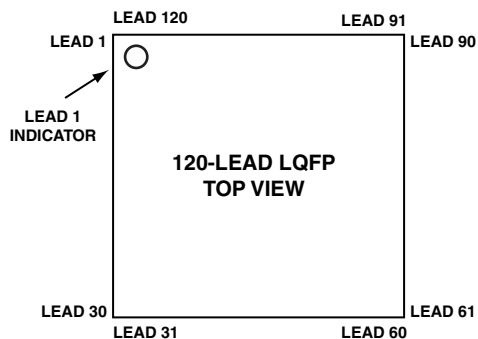
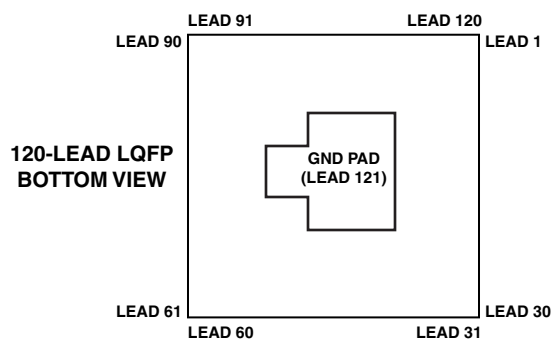

Figure 65. 120-Lead LQFP Lead Configuration (Top View)
Figure 66. 120-Lead LQFP Lead Configuration (Bottom View)
* Pin no. 121 is the GND supply (see Figure 66) for the processor; this pad **must** connect to GND.
Figure 65 shows the top view of the 120-lead LQFP package lead configuration and Figure 66 shows the bottom view of the 120-lead LQFP package lead configuration.